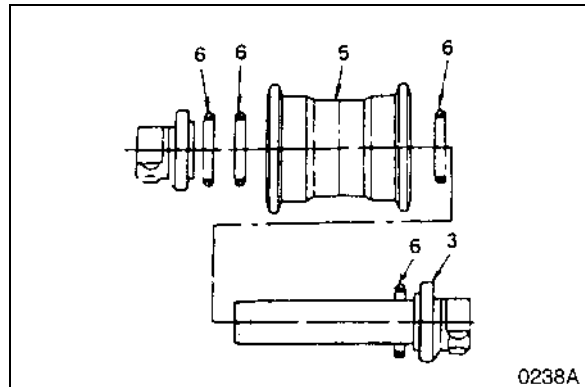

Figure 36
- Insert group seals (6, Figure 36) into the roller (5) and collar (3).